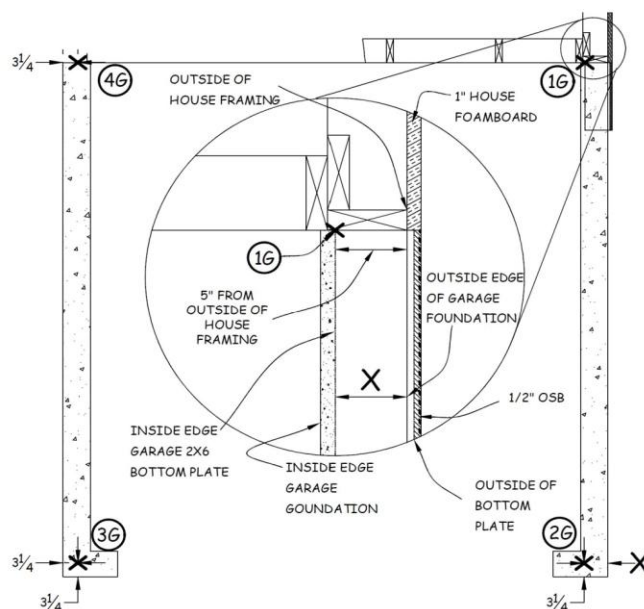

Figure 23-2. Garage Sill Plate Chalk Lines After House Walls.
2. At the wall common with the exterior house wall, determine the location of the outside of the house framing. Measure 5” in toward the garage interior and make a mark on the garage foundation where it touches the house wall (see detail in Figure 23-2). This establishes Point 1G. Measure from Point 1G to the outside of the curb, **X** in Figure 23-2. Establish Point 2G at the other end of the garage wall by measuring **X**” in from the outside of the curb, and 3¼” in from the front of the curb. Establish Points 3G and 4G as shown in Figure 23-2.